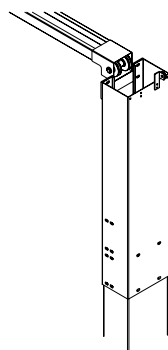

Figure 3
- Lock Release Pulley:** Install the lock release pulley to the column extensions. You will find the pulleys attached to inside of column extension or in the parts box. The pulley must be installed with the pulley up and the bracket mounted to the outside of the column extension. See Figure 3.